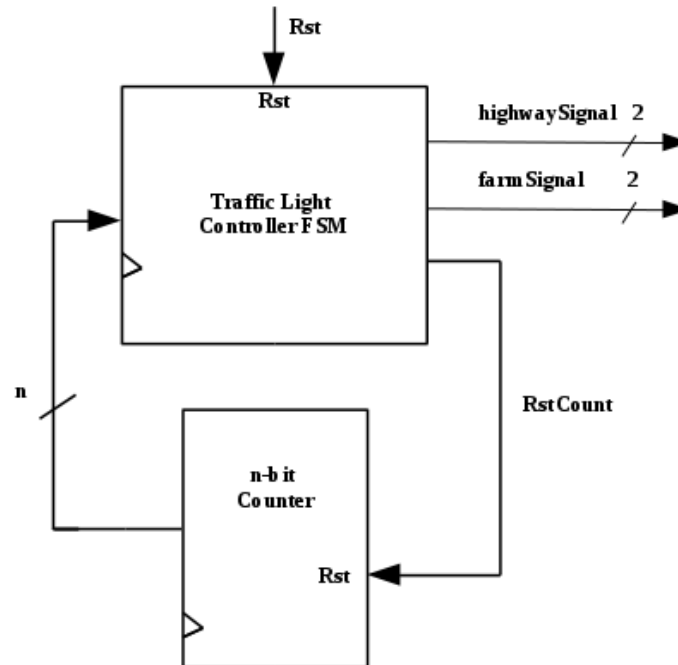

Figure 5: The Initial Traffic Light Controller Circuit
The traffic light controller will be made up of three main components as shown in Figure 5. You will be responsible for describing in Verilog the counter and FSM.
2. Based on the column entries you just calculated, what is the necessary value of n in Figure 5?
- (b) Create a source file called 'tlc_controller.v' and use the Verilog code below as a starting point for describing the circuit in Figure 5.